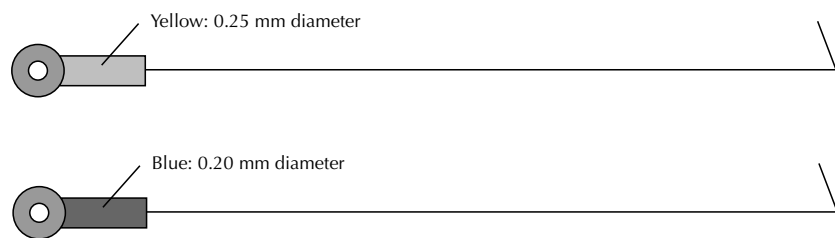

Figure 2-7. Bubble Hooks.
5. Remove any bubbles that form during gel pouring using a bubble hook (Figure 2-7).